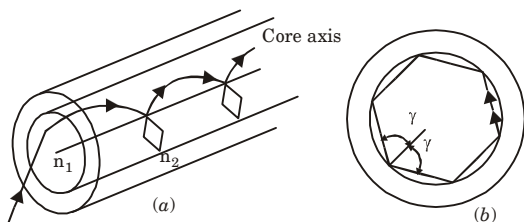

Fig. 13. The helical path taken by a skew ray in an optical fiber:
- From Fig. 13, it is observed that the helical path traced through the fiber gives a change in direction of 2γ at each reflection where γ is the angle between the projection of the ray in two dimensions and radius of fiber core at the point of reflection.